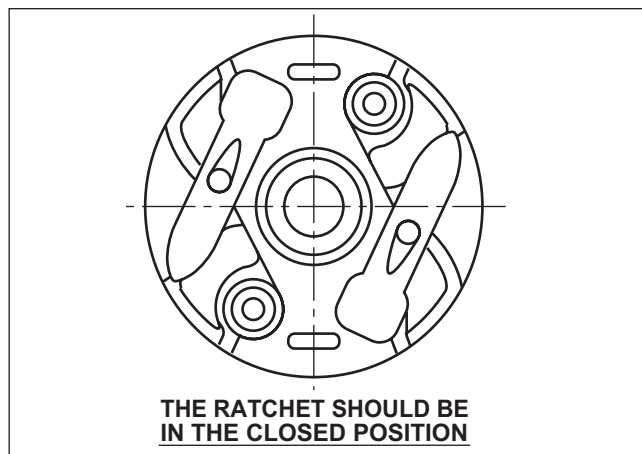

Fig. 14-5
(2) Mount the components
- 1 Mount the ratchet into the reel. (Fig. 14-5)